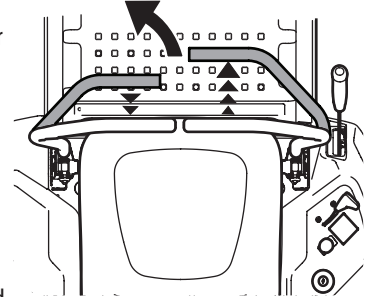

Figure 28
1. To turn to the left, move the left drive control lever rearward of the right drive control lever. See Figure 28.